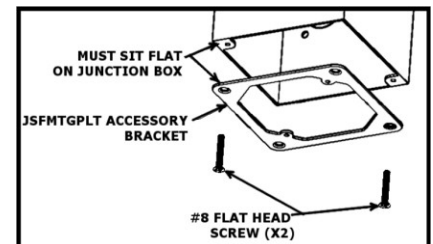

Figure 12
Step 2. Take accessory bracket and secure it as shown (Fig. 12) with provided flat head screws to junction box. Make sure bracket does not sit on ceiling surface as it must make direct contact with junction box housing (Fig. 12).